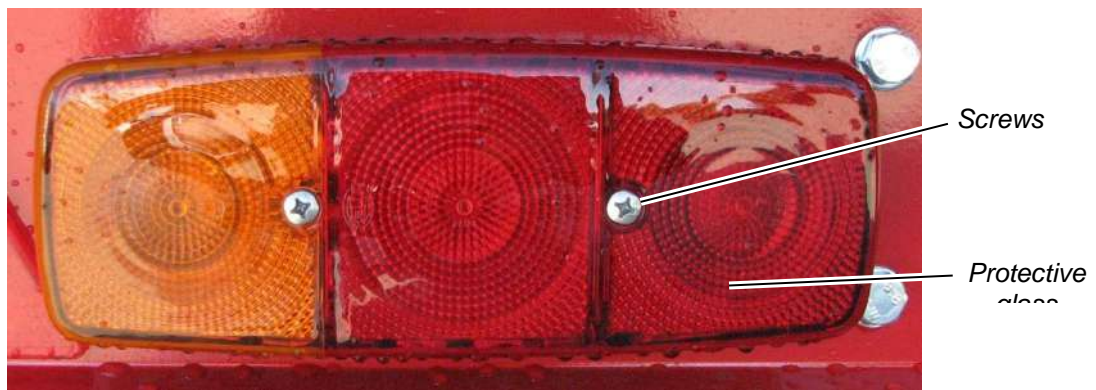

Figure 54: Three-compartment light
- ⇒ Unscrew the two screws from the three-compartment light (see Figure 54).
- ⇒ Remove the protective glass (see Figure 54).